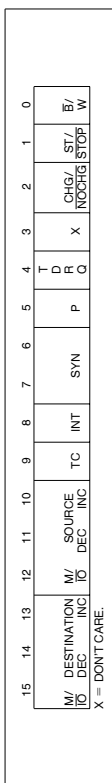

Figure 17. DMA Control Register
words), a 20-bit destination pointer (2 words), a 16-bit Transfer Counter, and a 16-bit Control Word. The format of the DMA Control Blocks is shown in Table 13. The Transfer Counter Register (TC) specifies the number of DMA transfers to be performed. Up to 64K byte or word transfers can be performed with automatic termination. The Control Word defines the channel's operation (see Figure 17). All registers may be modified or altered during any DMA activity. Any changes made to these registers will be reflected immediately in DMA operation.